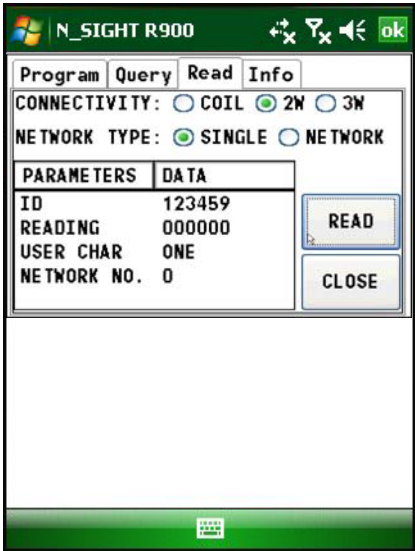

Figure 9.14 ProRead Reading Result Screen
- 5 Touch or click **READ** to collect the reading. See Figure 9.14.